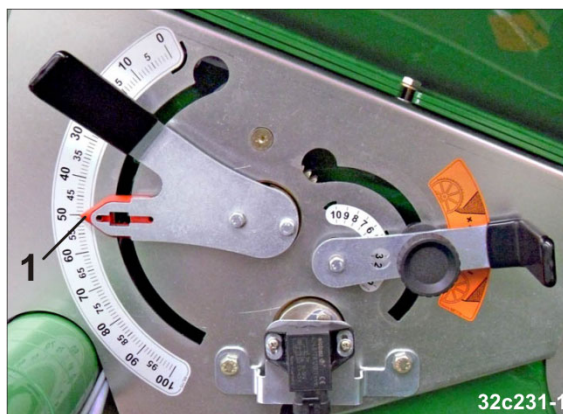

Fig. 74
- by the indicator (Fig. 74/1),